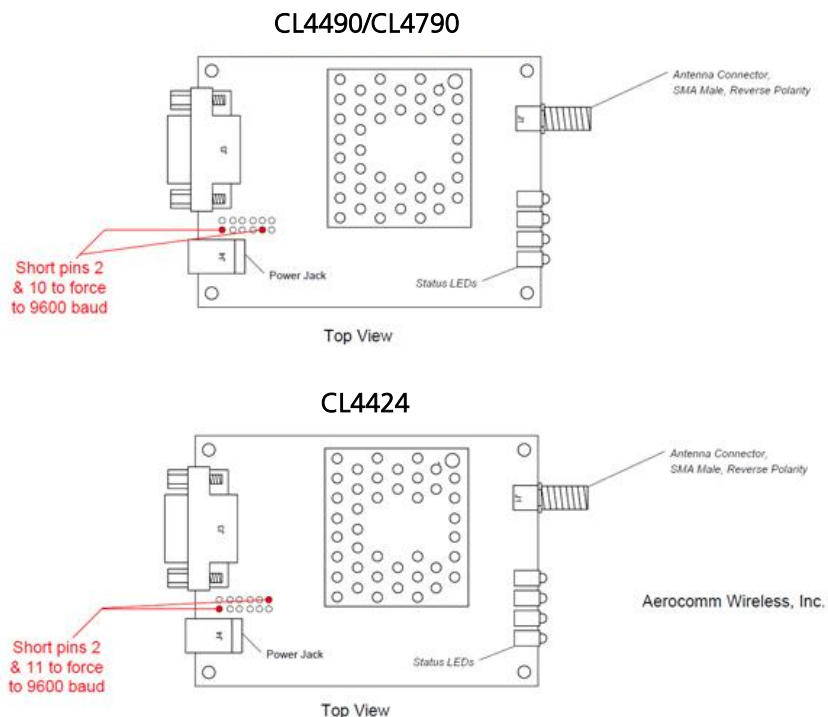

Figure 2: Shorting pins to force to 9600 baud
3. Set a jumper between the pins (a wire or even a tweezers work, it is a low voltage line). See Figure 2.